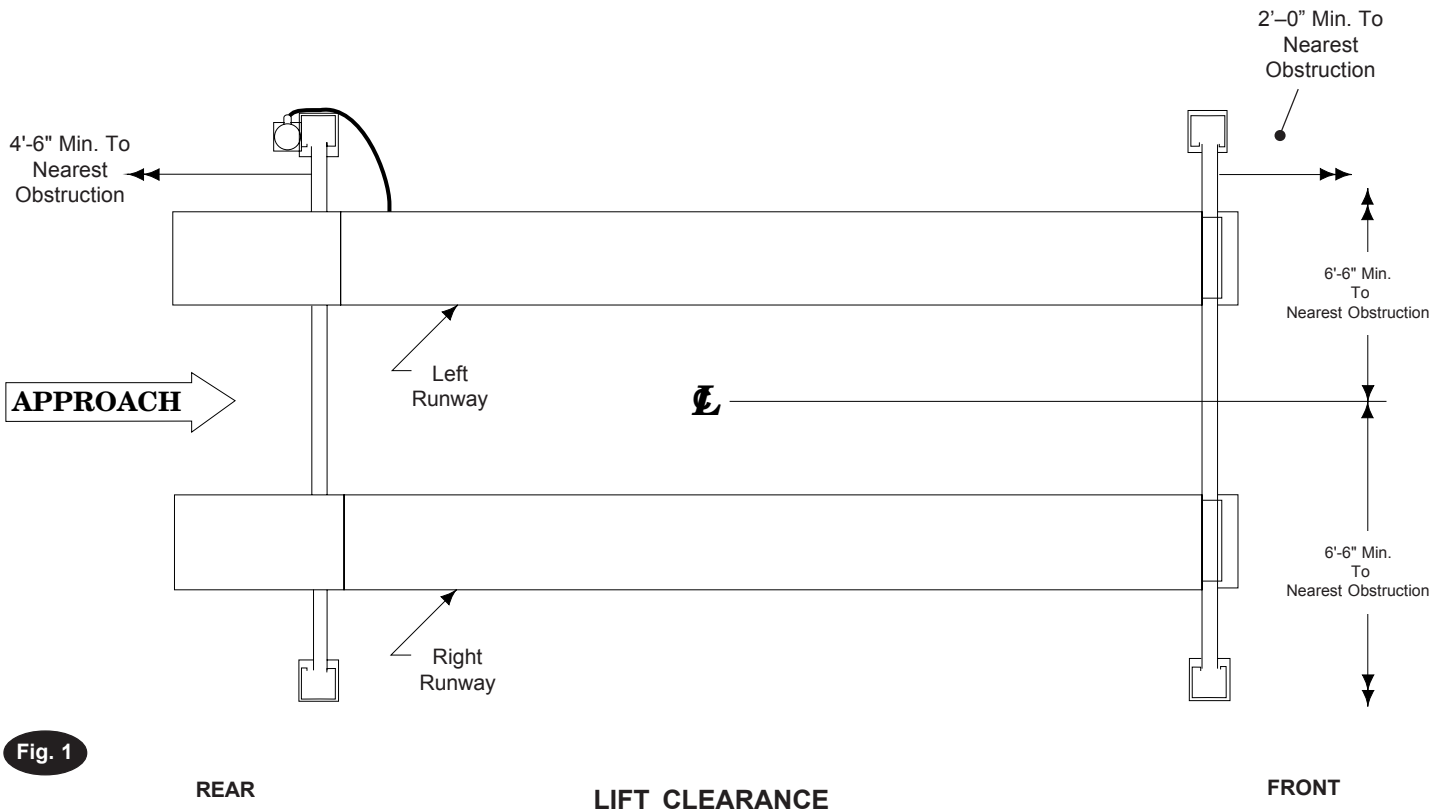
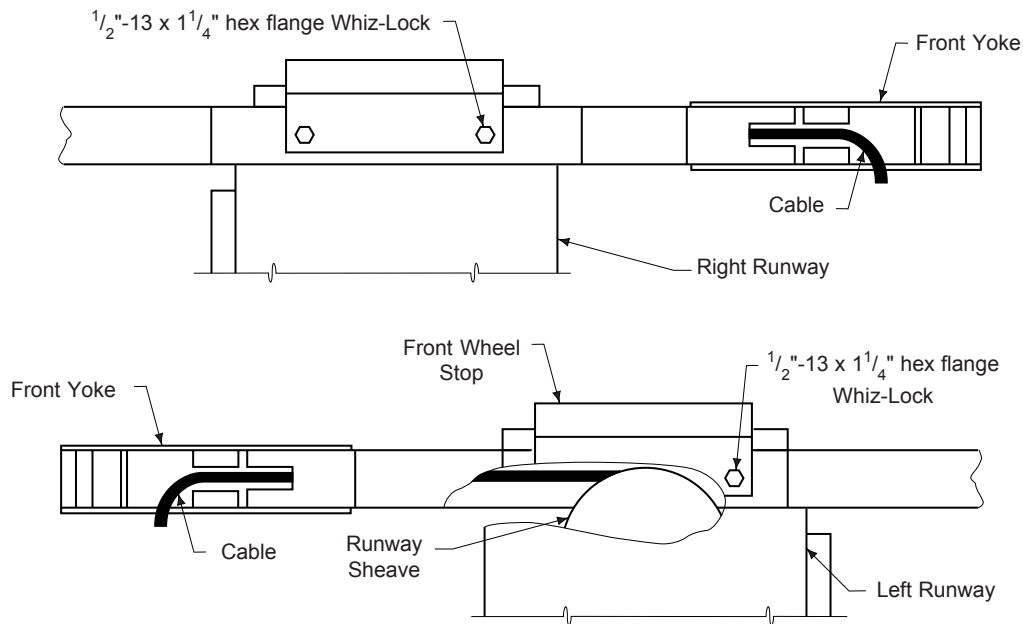

Fig. 1
Fig. 4
1. Lift Location: Use architects plan when available to locate lift. Fig. 1 shows dimensions of a typical bay layout. For power unit at right front, rotate lift 180°, leaving ramp/chocks and wheel stops in original position. Lift floor area should be level.
- C. Position front and rear yokes at respective ends of runway, Fig. 1. The opening in the side of the yokes should be lined up with the cable sheaves in the runway ends. Feed cable ends through yoke openings, Fig. 4. Do not assemble sheaves in yoke ends at this time.
With the openings in the yoke tube side lined up with the left runway ends, align the two (2) holes in the top of the front yoke tube with the slots in the runway end plates and the holes in the front wheel stops. Bolt runway to the yoke using four $\frac{1}{2}$ " x $1\frac{1}{4}$ " hex flange bolts, Fig. 4. The right runway may be located in two (2) locations on yokes, allowing for either 40" or 43" between runways. Align the slots of the right runway end plates with the desired set of holes in the yoke tube. Make sure front and rear are located in the same set of holes.